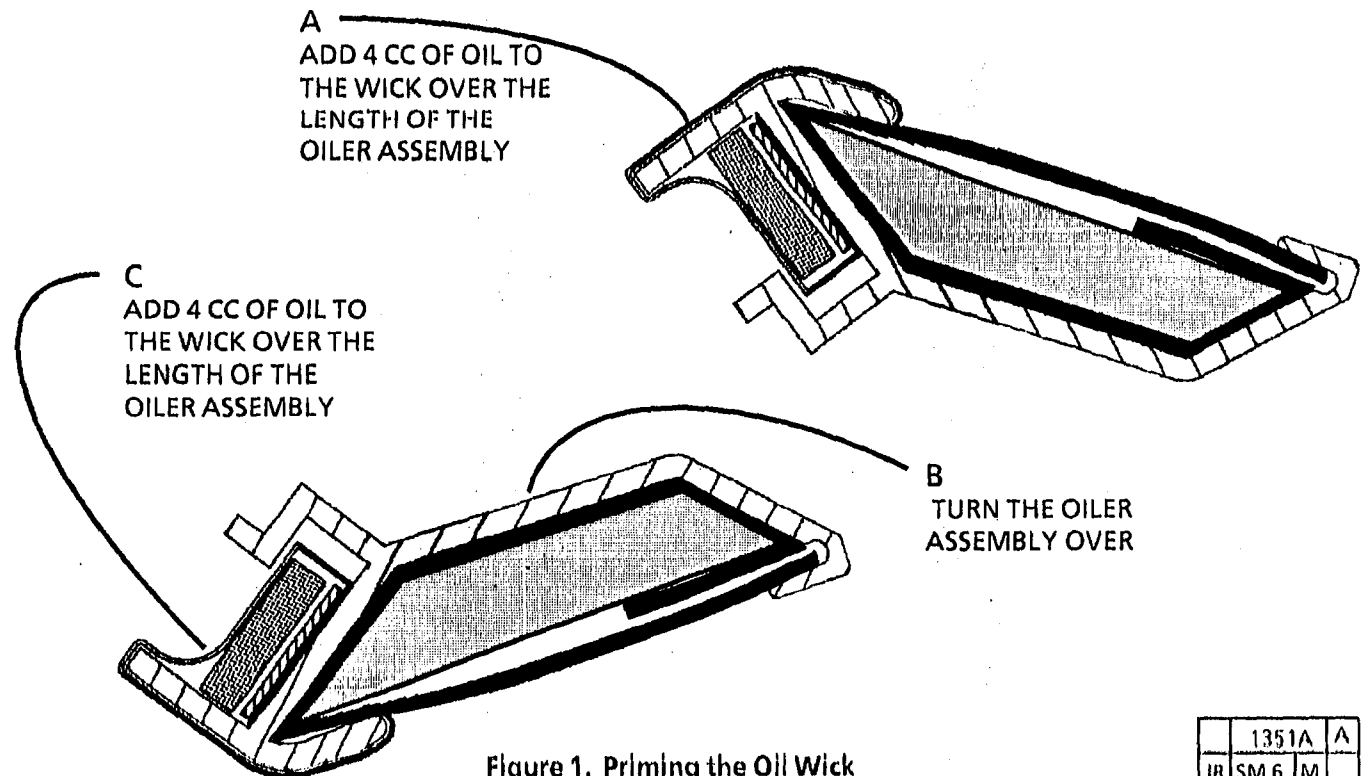

Figure 1. Priming the Oil Wick
3. (Figure 1): Prime the wick.